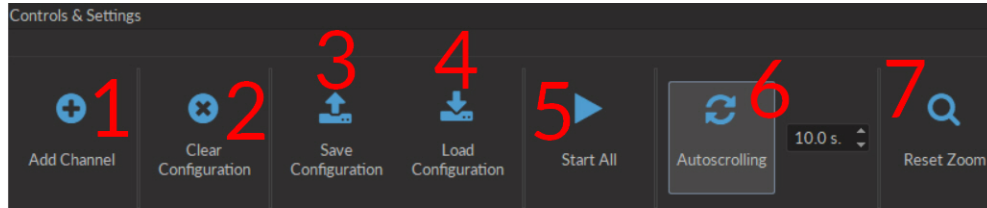

Figure 3.67: Control & Settings Box
1. The **Add Channel** button (Fig. 3.67) opens the **Channels configuration** window. This window is detailed in section 3.6.1.
2. The **Clear configuration** button (Fig. 3.67) resets the acquisition view and all other parameters set. Any configurations already set will be lost.
3. The **Save configuration** button (Fig. 3.67) allows an OTPG configuration to be saved in the **.doric** format.
4. The **Load configuration** button (Fig. 3.67) allows an OTPG configuration in **.doric** format to be loaded.
5. The **Start All** button (Fig. 3.67) activates all prepared channels.
6. The **Autoscrolling** button (Fig. 3.67), when clicked, makes the graphs scroll as new data appears. The duration (in s) kept on display is defined in the box beside the button.
7. The **Reset Zoom** button (Fig. 3.67) resets the horizontal axis of all graphs displayed in the **Acquisition View** to the duration chosen in the **Autoscrolling** box.